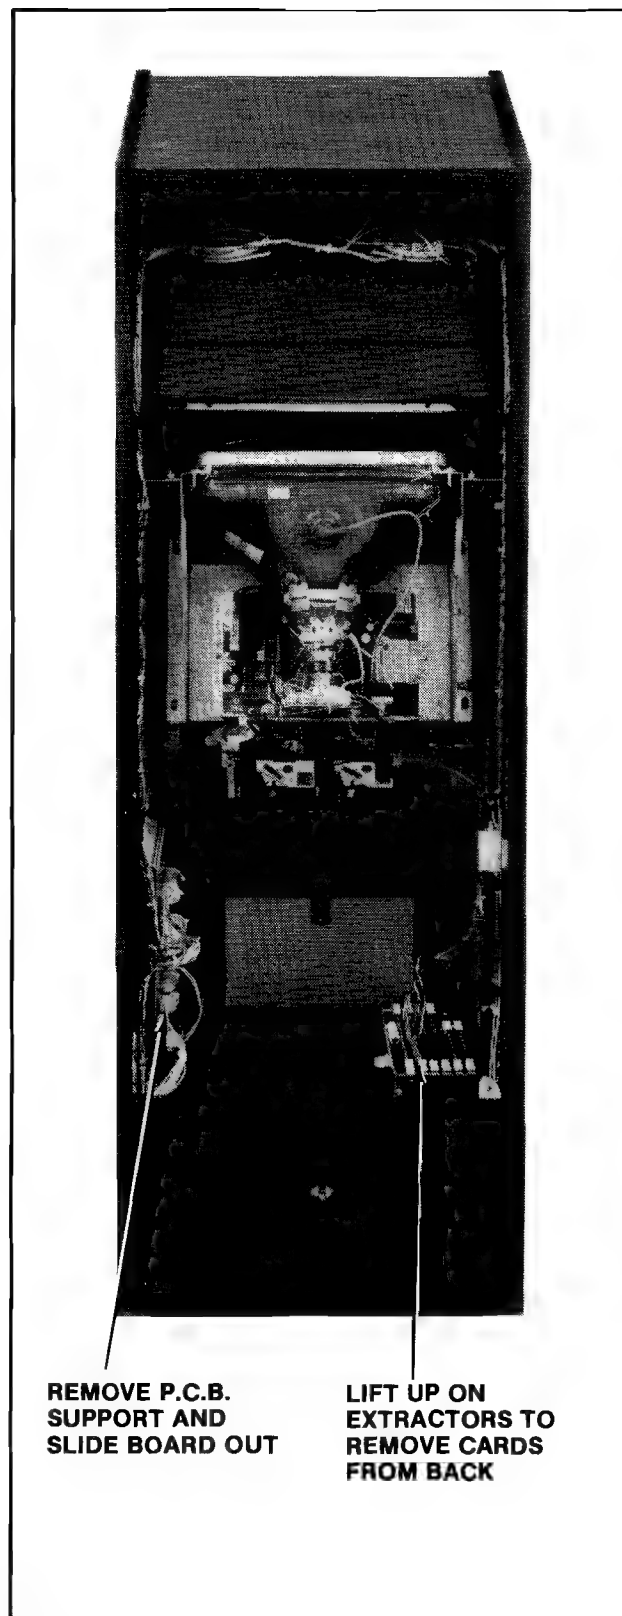

Figure 2-23 Removing Printed Circuit Boards -
2.8.2 MINI MODEL: (See Figure 2-23) (Cont'd)
- ☐ Disconnect the power supply board from all its cabling, remove the P.C.B. supports indicated in Figure 2-23, and slide it out the back of the cabinet.